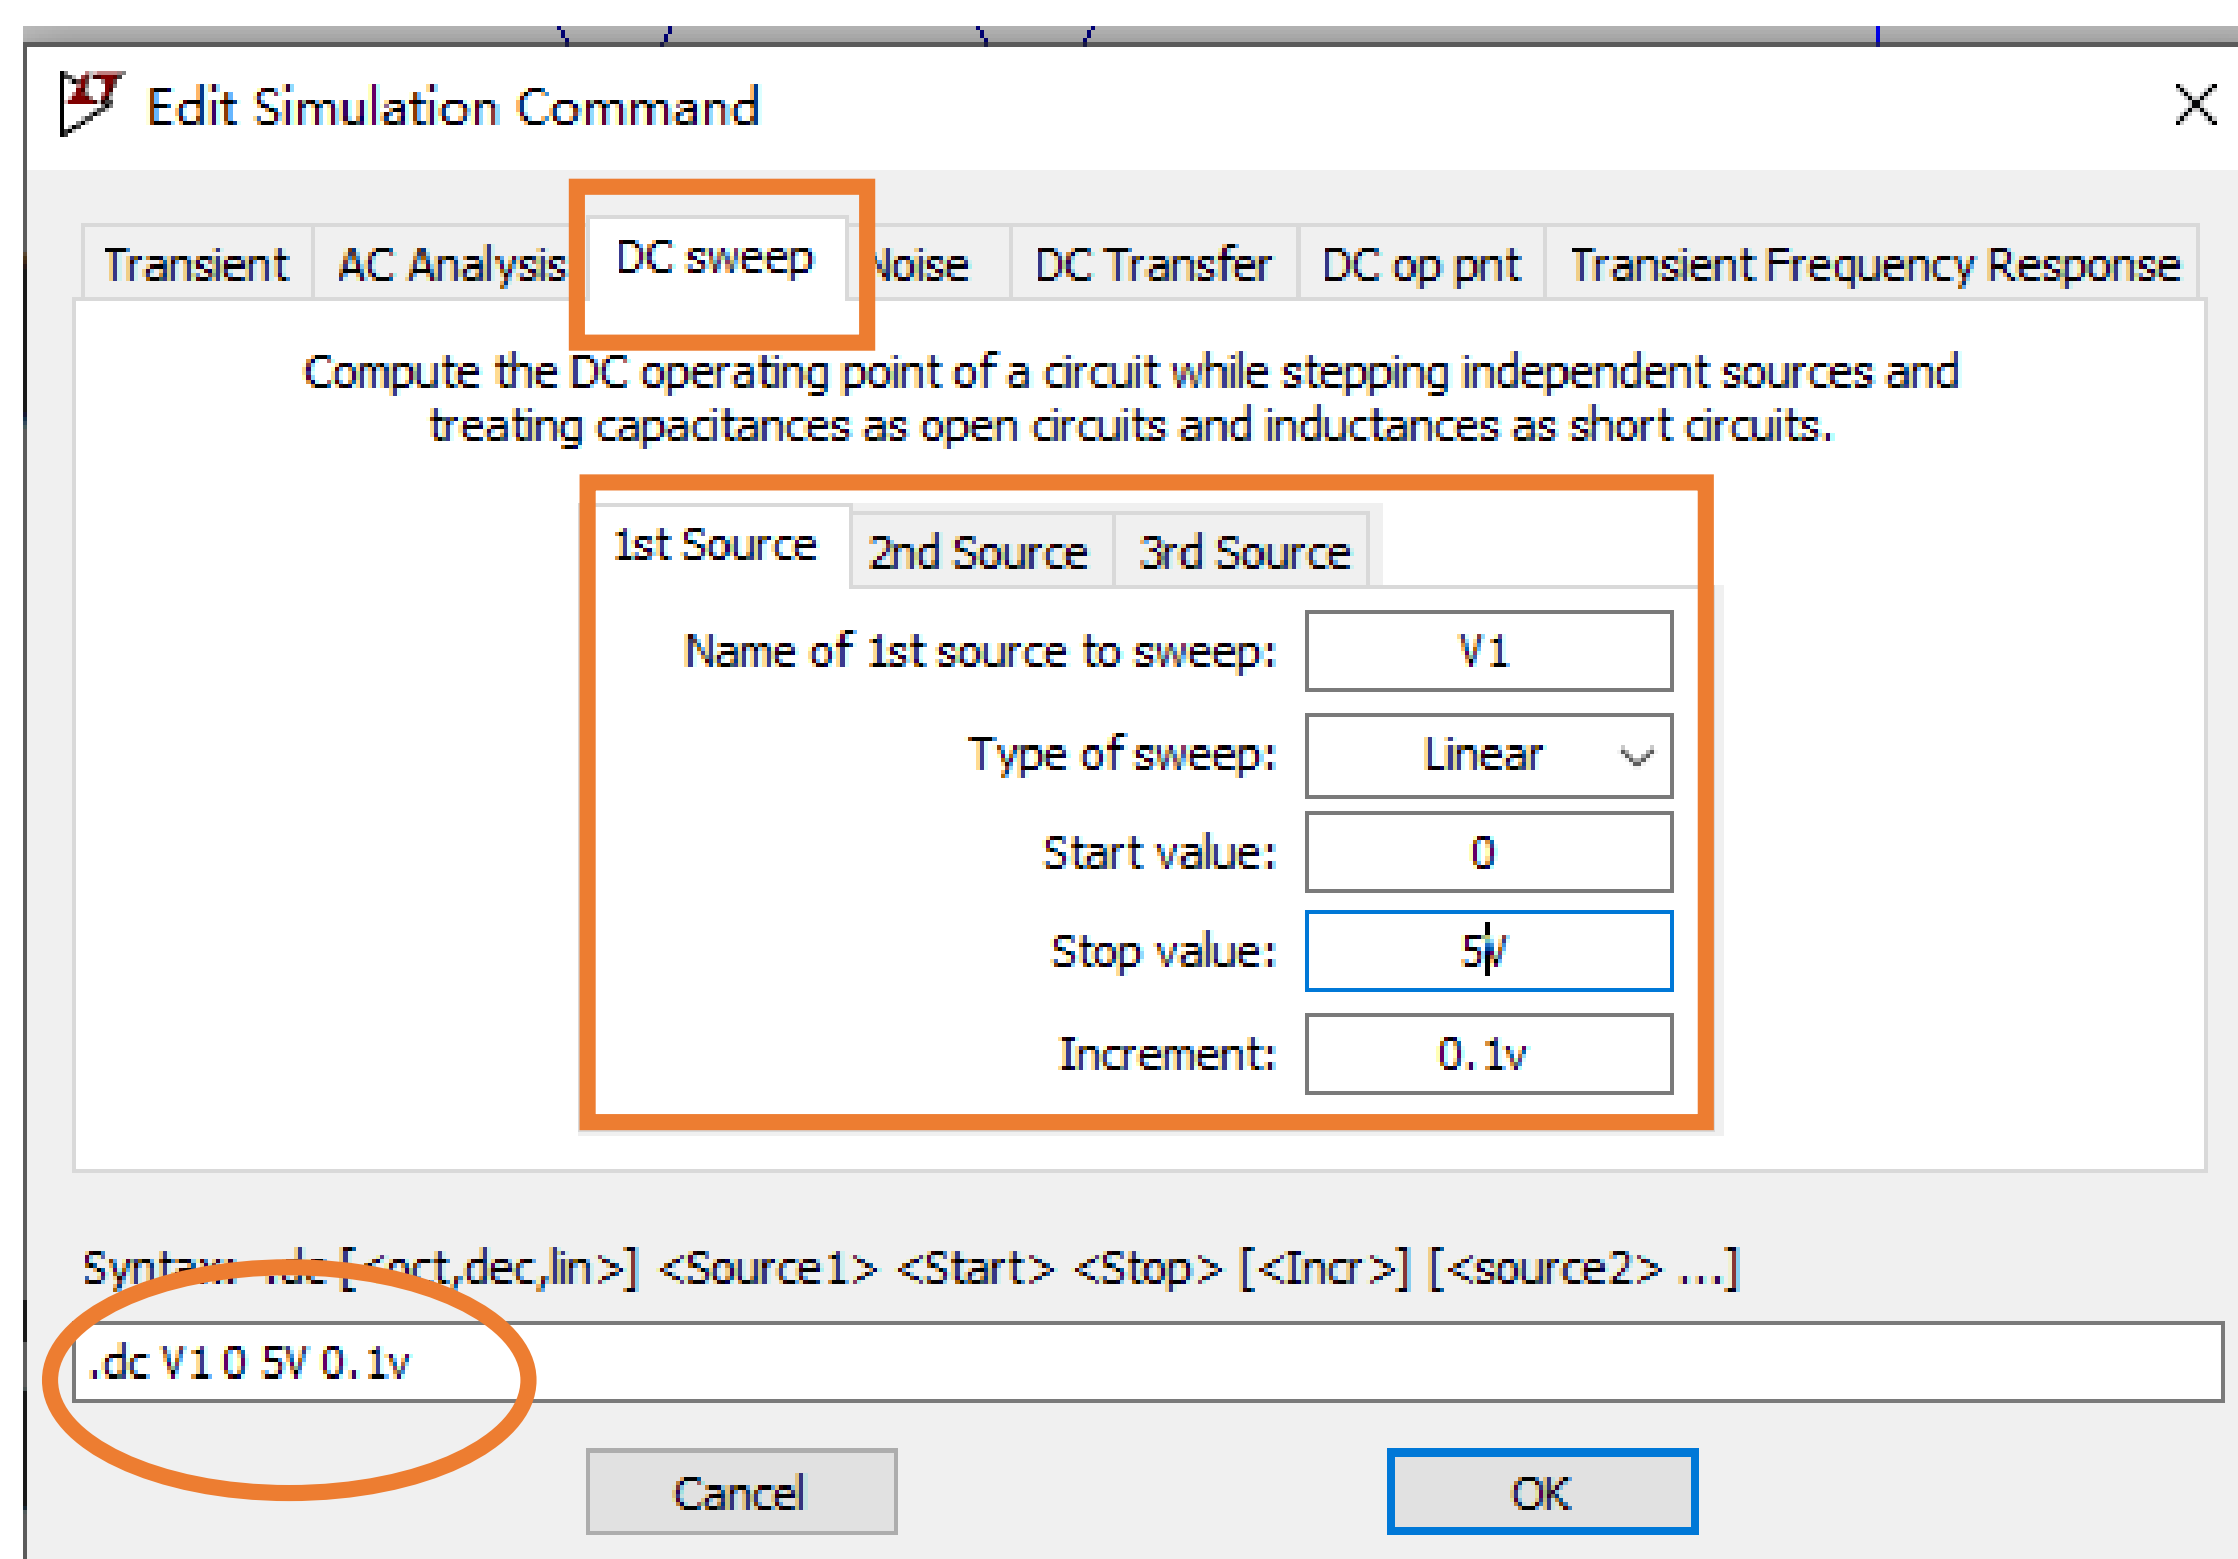

Figure 9: DC simulation settings.
- c) Check the so generated simulation command: “.dc V1 0 5V 0.1V” in the lower part of window as show in Figure 9